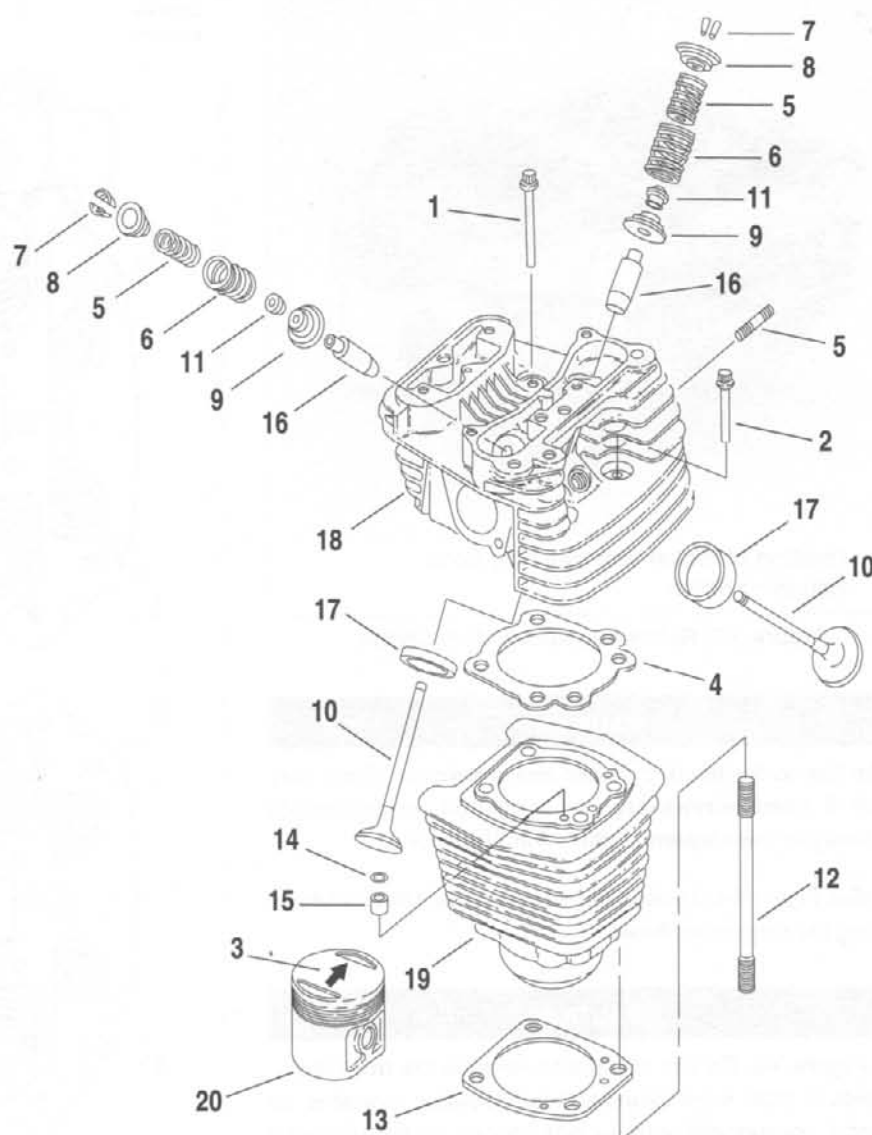

Figure 3-10. Cylinder Head, Cylinder and Piston
14. See Figure 3-10. Remove cylinder head (18), head gasket (4), and O-rings (14).
2. See Figure 3-10. Remove valve keepers (7), upper collar (8) and valve springs (5, 6). Mark valve keepers for reassembly in their original locations.
4. Mark valve to ensure that it will be reassembled in the same head. Remove valve (10), valve stem seal (11) and lower collar (9).